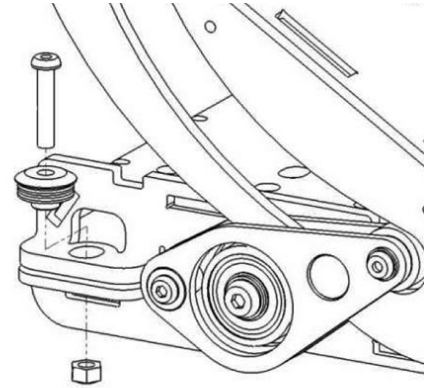

Fig. 6. Remove the screws, spring washers and nuts on the left and right hand side.
7. Remove the screws, spring washers and nuts on the left and right hand side. See fig. 6.